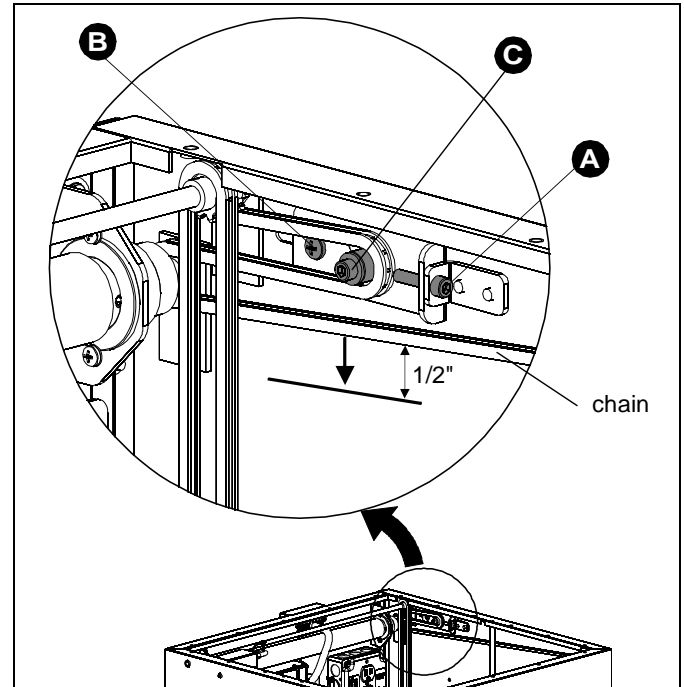

Figure 2
NOTE: Chain should have approximately 1/2" deflection in the middle of the span. (See Figure 2)
2. Adjust chain tension by loosening BUT NOT REMOVING the two tensioning screws (B, C). (See Figure 2)
4. Once chain tension is correct, tighten tension screws (B, C) (See Figure 2)